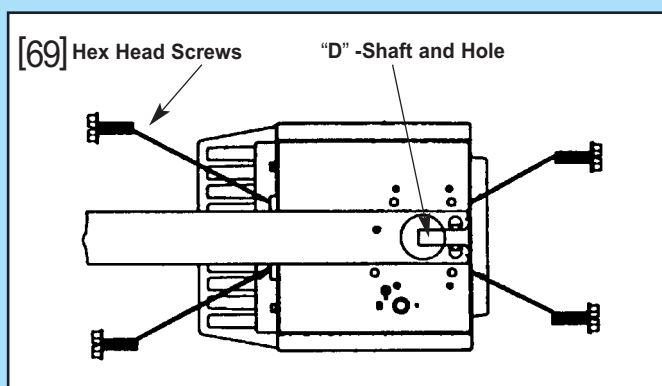

Fig. 1-2
4. Slide drive end of channel down over "D"-shaft on top of power head (Fig. 1-2).
- Insert and securely tighten the four (4) No. 10 x 1/2" hex head screws [69].